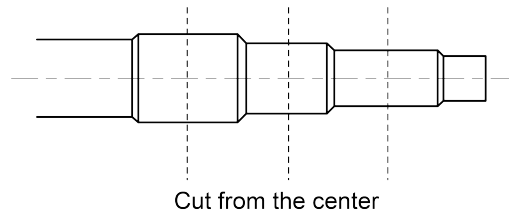

Fig.35
- (2) Manifold has several pipe sections with different pipe size, which facilitates to match with various copper pipe. Use pipe cutter to cut in the middle of the pipe section with different pipe size and deburr as well. See Fig.35.